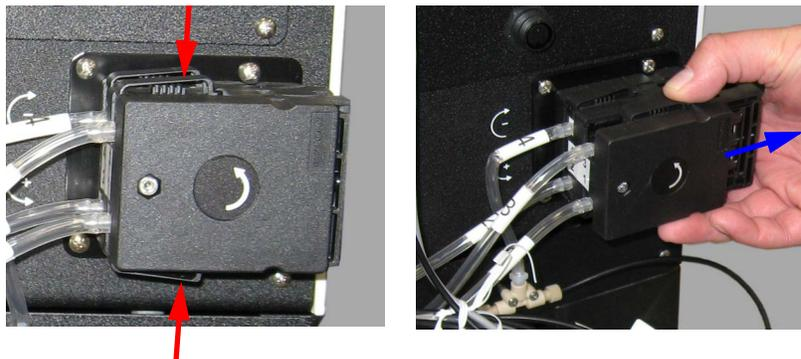

Figure 5-20 Removing a retaining clip
1. At the pump: push the levers at the top and bottom of each tube retaining clip, then pull the clips out (Figure 5-20).